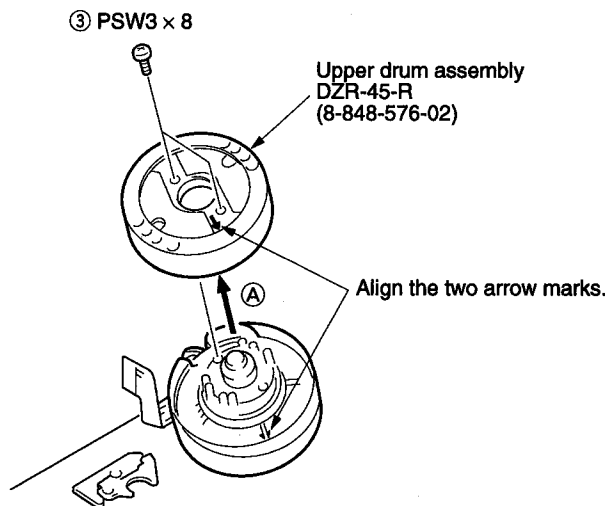

Fig. 5
- 3) Remove two screws ③ (PSW3×8) and remove the rotary upper drum in the direction of A. (Refer to Fig. 5.)
- 2) Align ➡ mark of the rotary upper drum board with the ➡ mark of the rotary transformer board so that the screw hole on the upper drum and that on the lower drum are aligned. (Refer to Fig. 5.)
- 4) Tighten the two screws ③ (PSW3×8). (Refer to Fig. 5.)
- 5) Fix the earth shaft ② by tightening the screw ① (+P3×8) so that protrusion at the tip of the earth shaft contacts the center of the drum shaft.
**Note:** When attaching the ground shaft assembly ②, never give force to the plate spring ④.